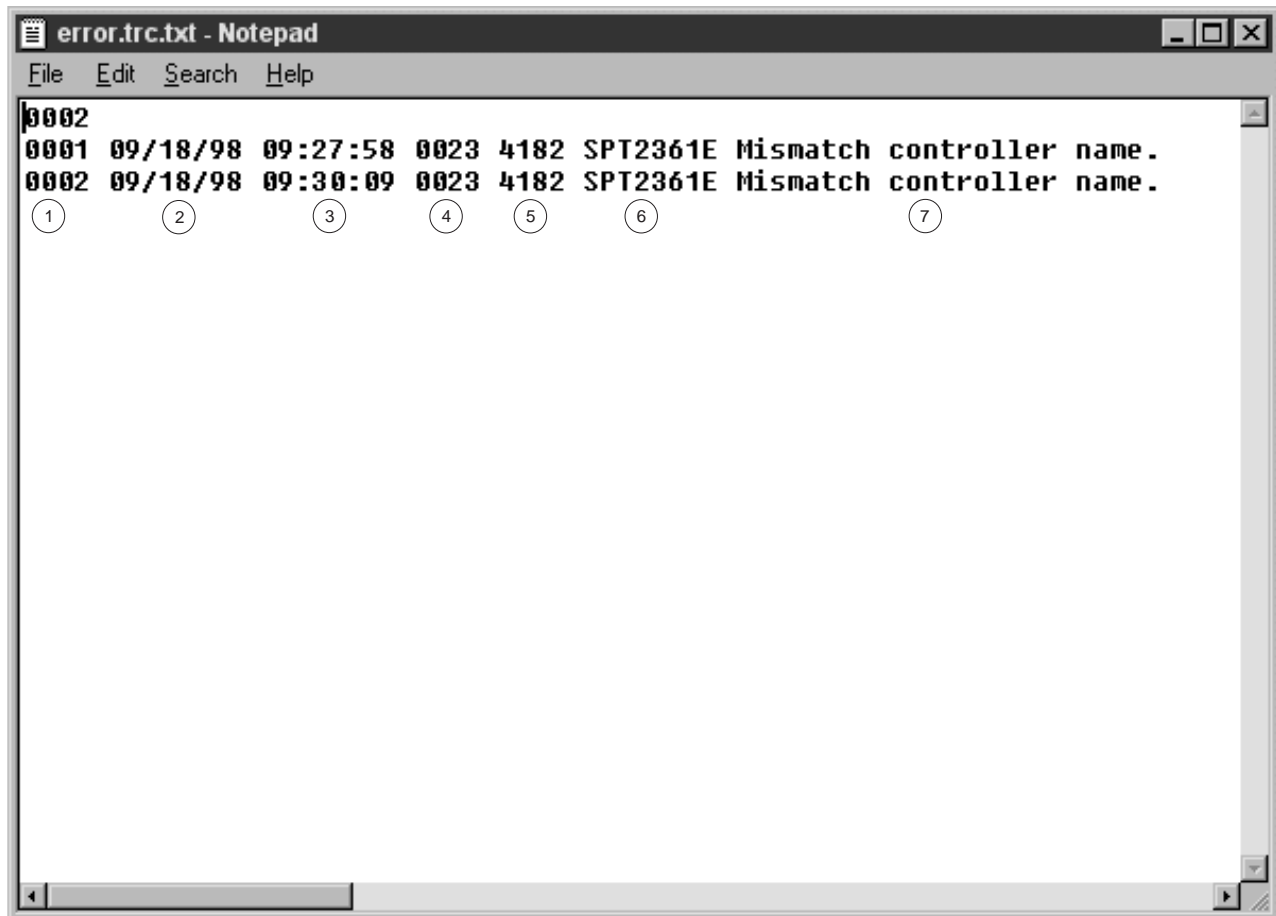

Figure 4.30 Error Trace File
- The **Error Trace File** option opens the text file (**error.trc**) that details the errors that occurred while running scripts (see Figure 4.30). Table 4.6 describes the error trace file.